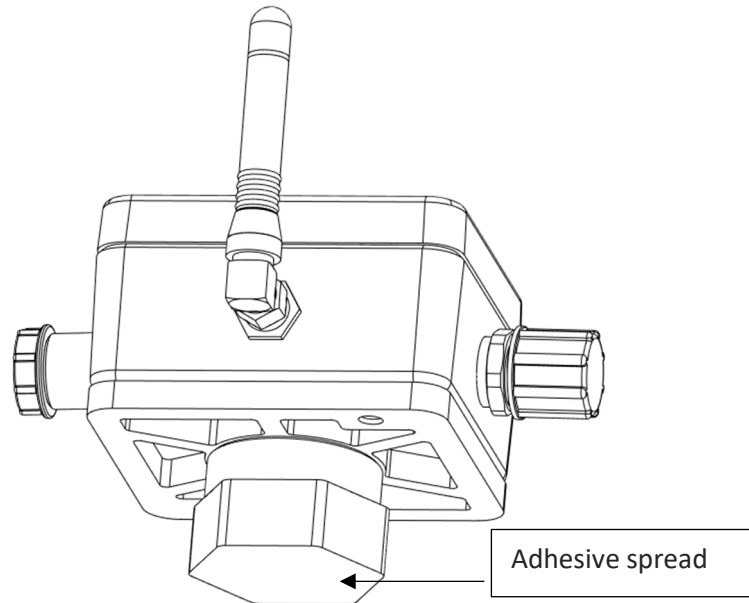

Figure 5.- Application of the glue on the fixing pad of the module
3. Apply a little amount of adhesive to the bottom of the fixing pad (Figure 5).